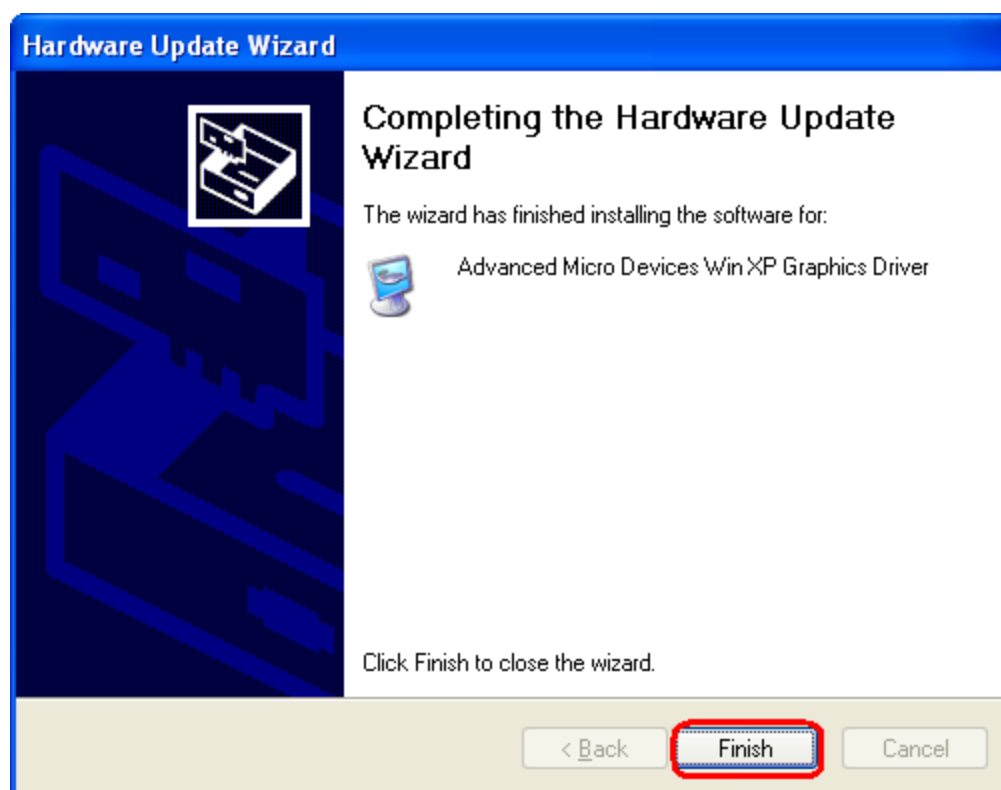

Figure 7-14: VGA Driver Installation Complete
Step 14: When the driver is installed, the screen in **Figure 7-14** appears.
Step 15: Click the Finish tab in to complete the **Figure 7-14** installation.